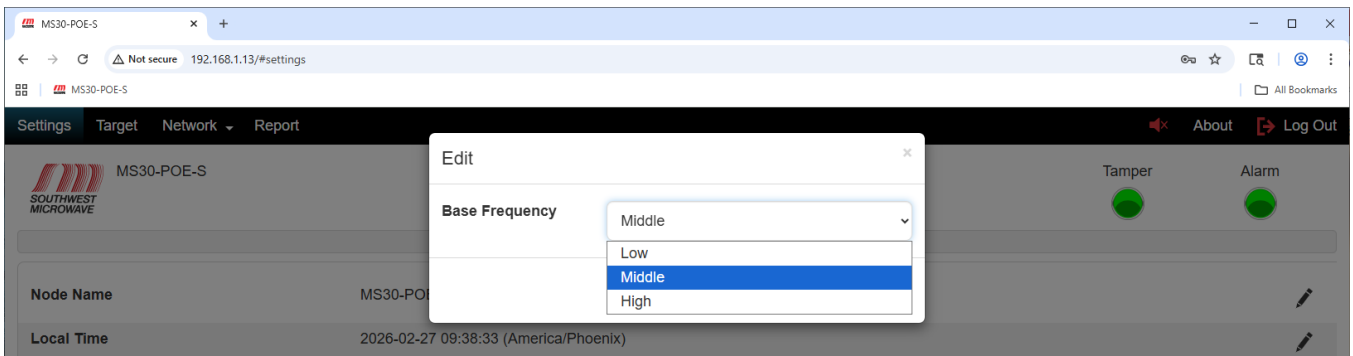

Figure 9.4 – Base Frequency
To edit the “Base Frequency” select the pencil icon at the end of the Base frequency field (far right on screen) to open the “Base Frequency Edit” dialog box. Select the pull-down menu to display the three (3) settings as shown in Figure 9.4. The selections are Low, Medium, and High. This selection is used when multiple units are used near each other or looking back at each other to minimize mutual interference. Medium is default. The low and high staggers the frequency below or above the medium.